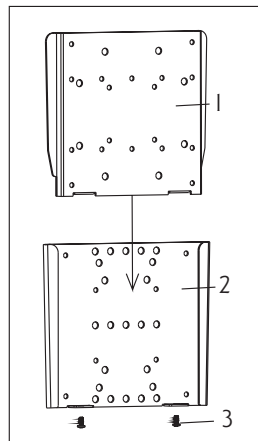

Fig 5
Thread two Safety Screws (3) through bottom of Wall Plate and into Monitor Plate, to secure the assembly. (Fig. 5)